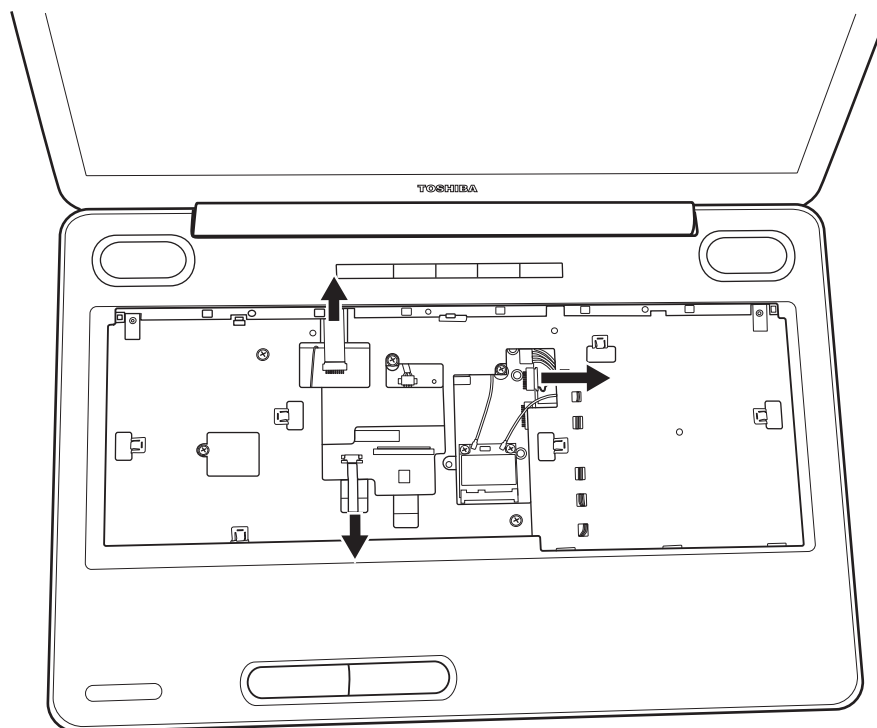

Figure 4.13 Detaching cables from under the keyboard
3. Detach one Power board FFC, one Bluetooth cable and one Touch Pad cable as shown in Figure 4.13.
2. Attach the three cables and secure the six screws as indicated in Figure 4.13 and 4.12.